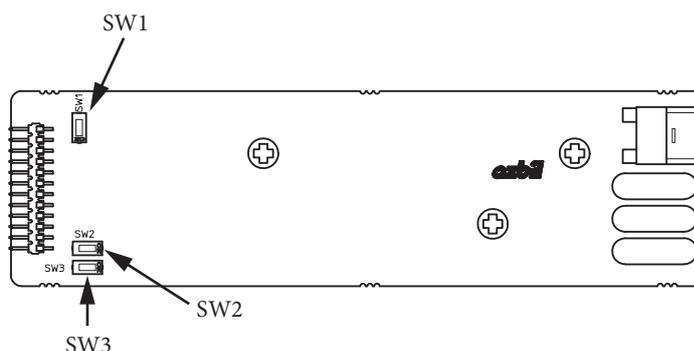

Fig. 7-2. Location of SW1, SW2, and SW3
- Hardware write protection ON/OFF: SW1 (→ Fig. 7-2)
- Burnout (B/O) ON/OFF: SW3 ( Fig. 7-2)
- Burnout direction: SW2 ( Fig. 7-2)